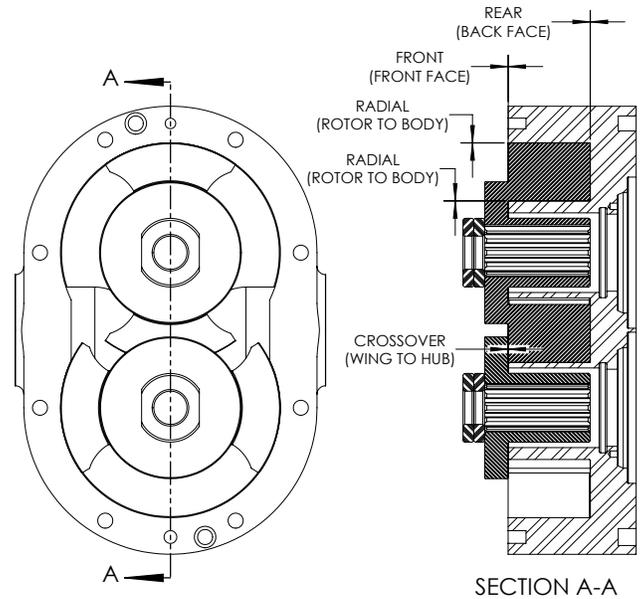

**FIGURE 18**
- Install grease seals in bearing retainers. Coat seal lips with grease conforming to ISO 220, NLGI grade 2 or NSF USDA-H1. Coat retainer flanges with silicone sealant. Install retainers. See Figure 18.